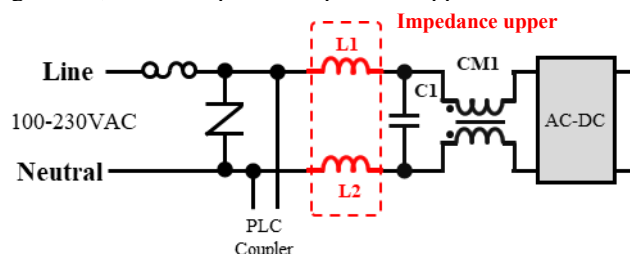

Figure 1-7 Example of impedance upper insertion
- To prevent the input impedance of the AC-DC power supply circuit from affecting the PLC input/output, insert an impedance upper between the PLC signal and the AC-DC power supply circuit. An example of impedance upper insertion is shown in Figure 1-7, and examples of impedance upper circuit constants are shown in Table 1-1.